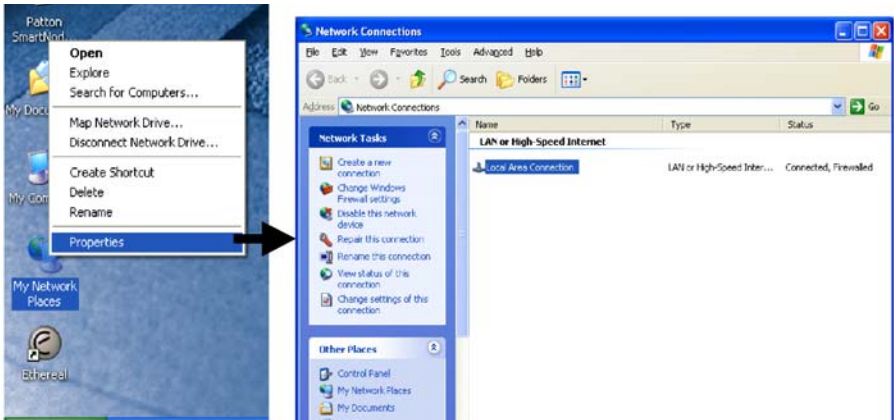

Figure 3. Displaying the Network Connections window
2. Right-click on *My Network Places* and select *Properties* in the context menu (see **figure 3**).